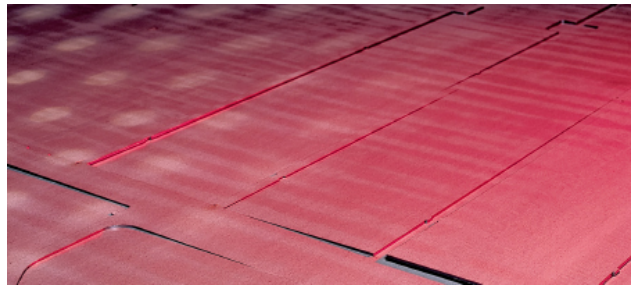

Fig. 6.2
- Straight, burr-free cut. (Fig. 6.2) High cutting speeds.